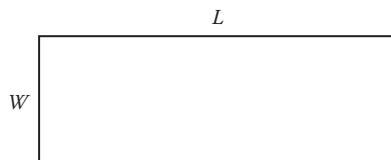

FIGURE 11.5 Area of a rectangle.
A rectangle is a two-dimensional box. The area of a rectangle is found by multiplying the length (L) times the width (W) (see Figure 11.5).